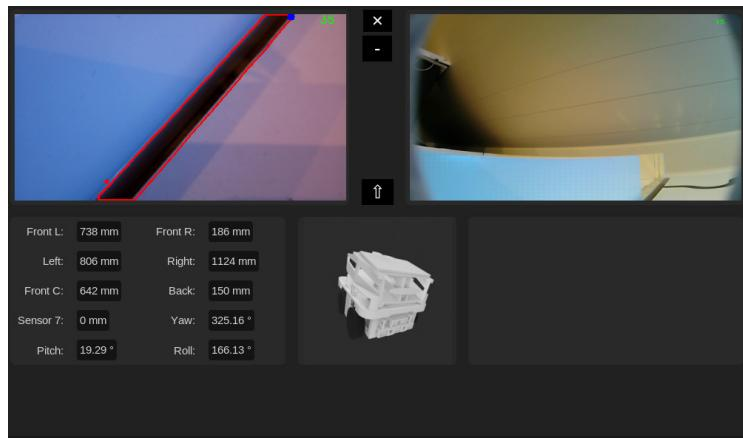

Figure 40: GUI integrated into existing line following code
- Added a label indicating the detection of any green markers to the GUI (see Fig. 40)
With this achievement of a completely new, much more performant and useful GUI that can run while following the line (see Fig. 40), at least i won't be able to do much more on the robot until mid December due to school trips and a subsequent exam period.